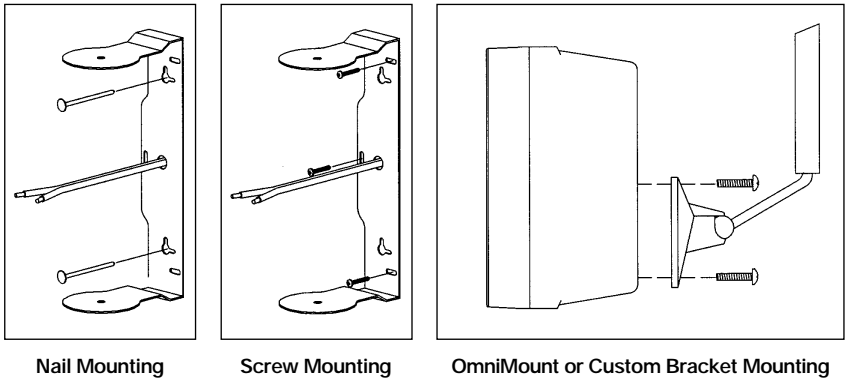

Figure 7 The OS3 can be mounted three ways.
1. If the speaker is never going to be exposed to sudden accidental impacts, wind, waves or earthquakes you can simply hang it on a nail using the nail hole(s) of the bracket (See Figure 7).
2. The safest and most secure way to mount the speaker is by screwing it to the mounting surface using your own hardware (suitable for the surface you are mounting to) and the bracket supplied with the speaker (See Figure 7).
3. There are threaded brass inserts on the back of the OS3 for attaching an OmniMount (53 RST-UMK Series) or a custom bracket (See Figure 7). This allows you to position the speaker at unusual angles or distances from the mounting surface.